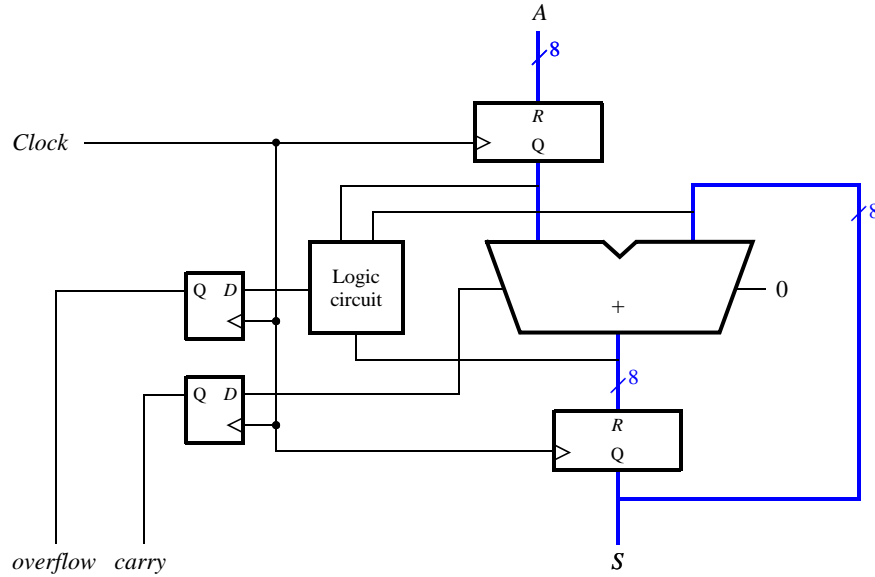

Figure 2: An eight-bit accumulator circuit.
Use this construct to implement a circuit shown in Figure 2. This circuit, which is often called an *accumulator*, is used to add the value of an input  $A$  to itself repeatedly. The circuit includes a carry out from the adder, as well as an *overflow* output signal. If the input  $A$  is considered as a 2's-complement number, then *overflow* should be set to 1 in the case where the output  $sum$  produced does not represent a correct 2's-complement result.
1. Create a new Quartus® project. Write Verilog code that describes the circuit in Figure 2.